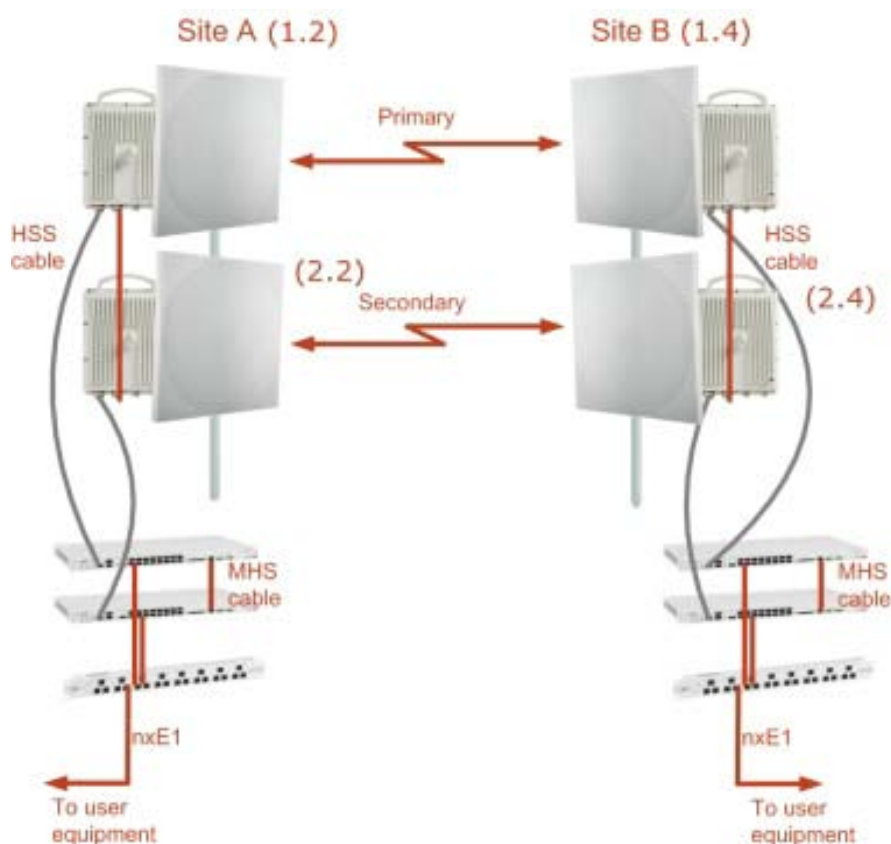
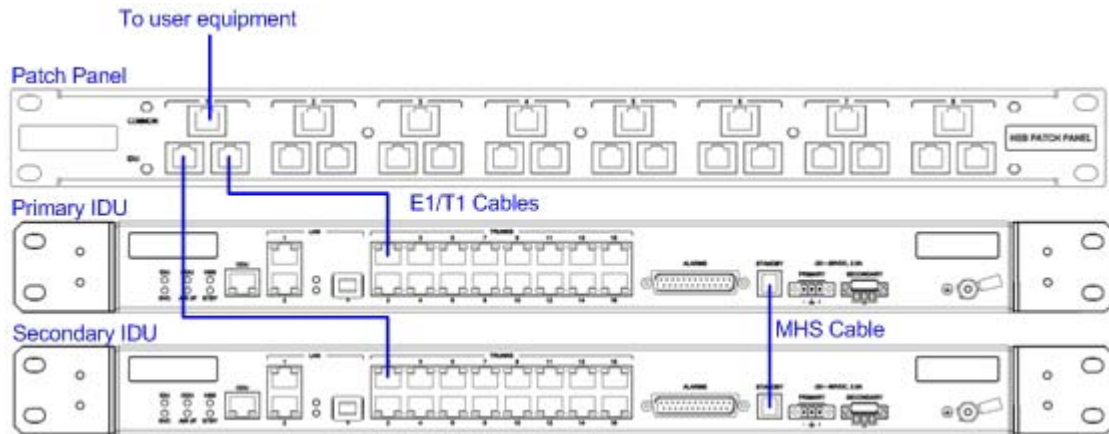

Figure 15-1: NetStream Monitored Hot Standby
Figure 15-3: How to connect the IDUs to the Patch Panel
The NetStream Monitored Hot Standby (MHS a.k.a 1+1) is a duplicated link set up as a primary link and a secondary link in hot standby mode as shown in Figure 15-1 below.
**Figure 15-1** above is a schematic of a NetStream MHS. **Figure 15-3** shows how to connect the IDUs to the Patch Panel.
3. The links intended as the primary and secondary will be referred to their respective names, Primary Link and Secondary Link as shown in Figure 15-1 above, despite their having yet to be installed.
6. Connect the MHS cables at Sites A and B as shown in Figure 15-1 and Figure 15-3 above.